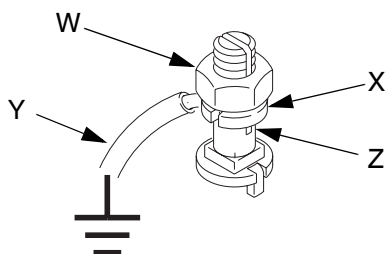

FIG. 7: Ground Screw
If you have ground screw shown in FIG. 7, loosen the grounding lug locknut (W) and washer (X). Insert one end of the ground wire (Y) into the slot in lug (Z) and tighten the locknut securely. Connect the other end of the wire to a true earth ground. Order 237569 ground wire and clamp assembly.